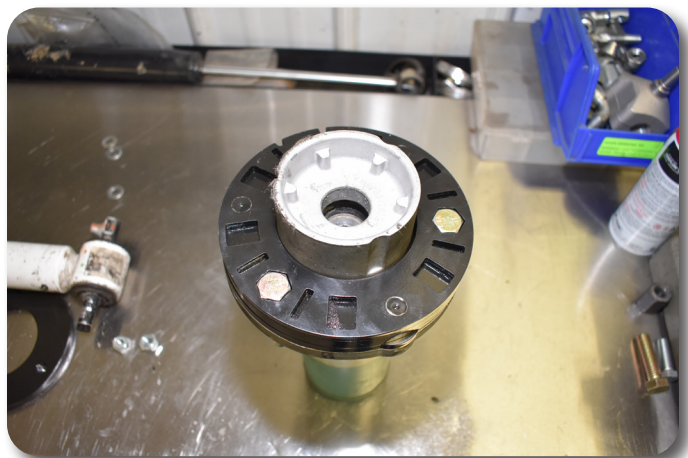
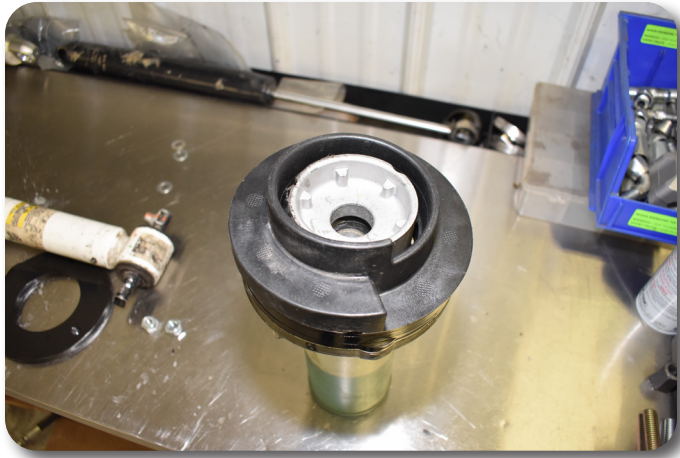

Figure 11A
Figure 11B
15. Install the preload spacer on to the upper strut mount. The bolt holes will only line up one way Figure 11A. Install the coil spring plastic isolator on to the preload spacer Figure 11B. The plastic isolator can only install one way.